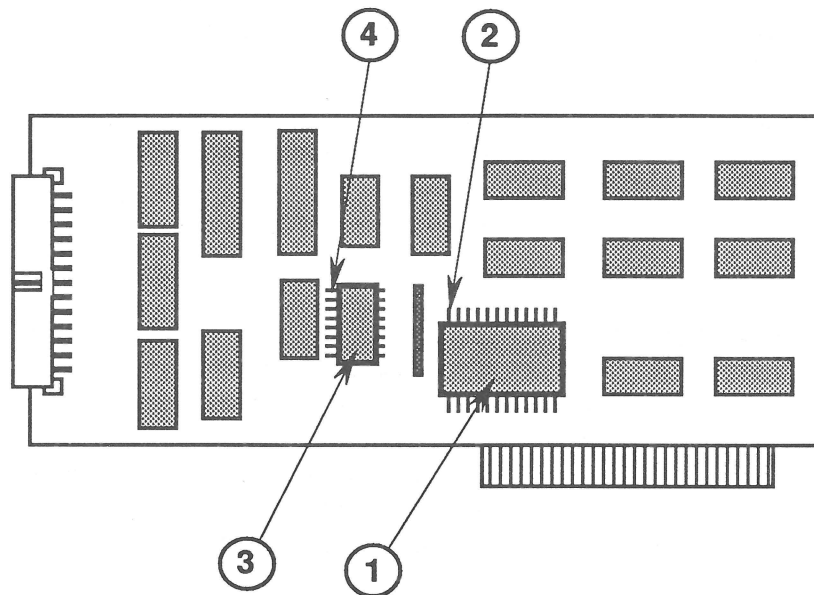

FIGURE 1
1. On the IC at C6 (Figure 1, #1), locate pin 12 (Figure 1, #2).
2. On the IC at B4 (Figure 1, #3), locate pin 1 (Figure 1, #4).